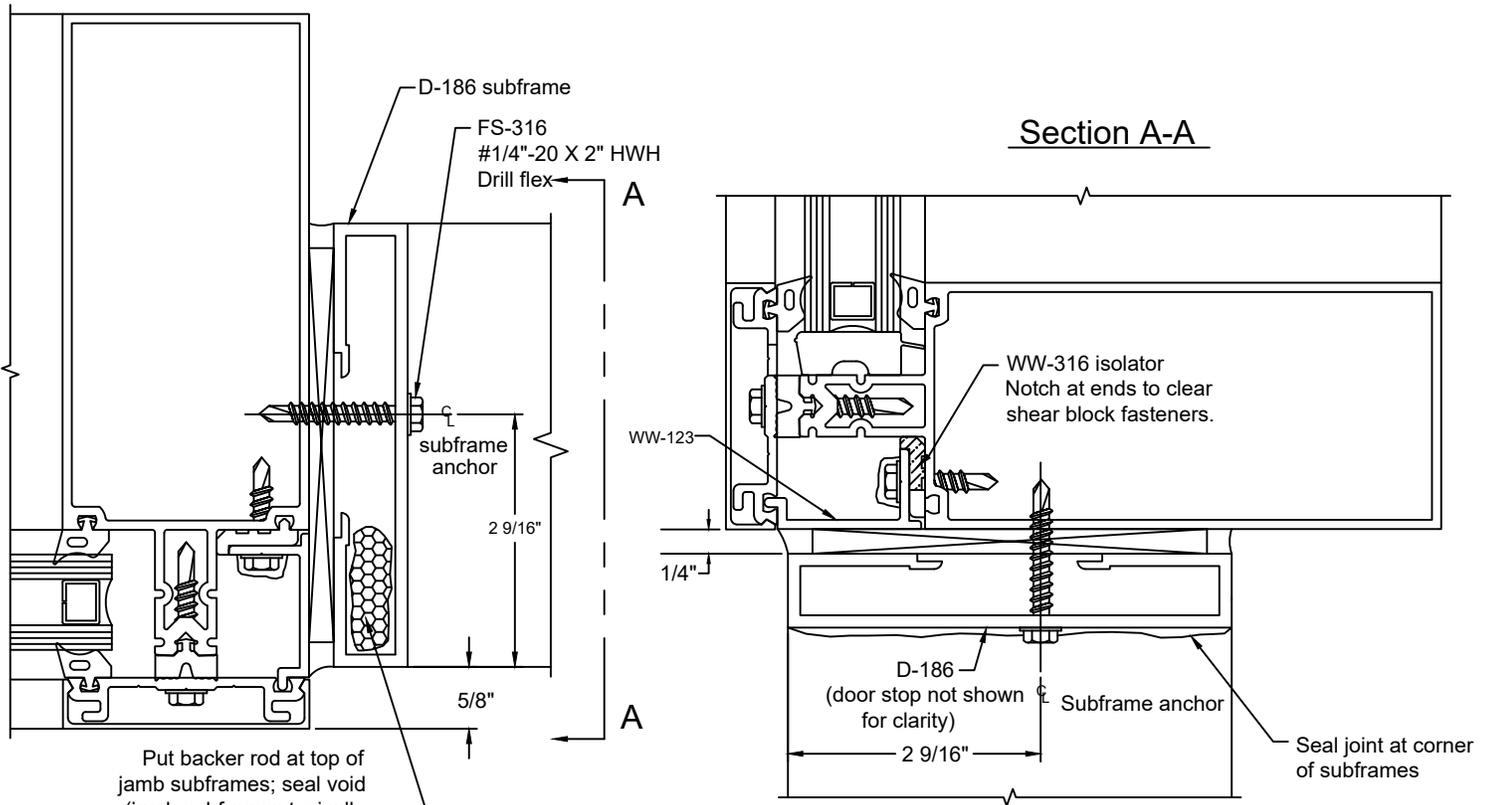

Figure 32
C.2.3 Bed subframes in sealant. Anchor to curtain wall framing members with FS-322 #12 x 1" HH STS at 18" O.C. Cap seal all fasteners and seal joint between jamb and header subframes. Seal tops of the jamb subframes. SEE FIGURE 32, page 37.